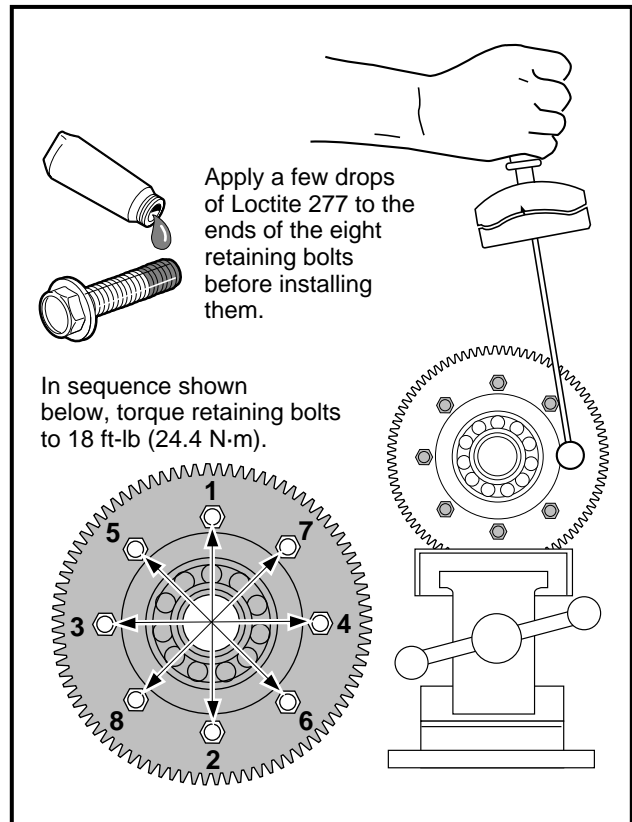

Figure 16-65 Retaining Bolts
7. Apply Loctite 277 on the threads of the eight mounting bolts and install them through the ring gear, carrier case, and into the carrier case cover. Tighten the bolts to 18 ft-lb (24.4 N·m) in the sequence shown (**Figure 16-65, Page 16-28**).